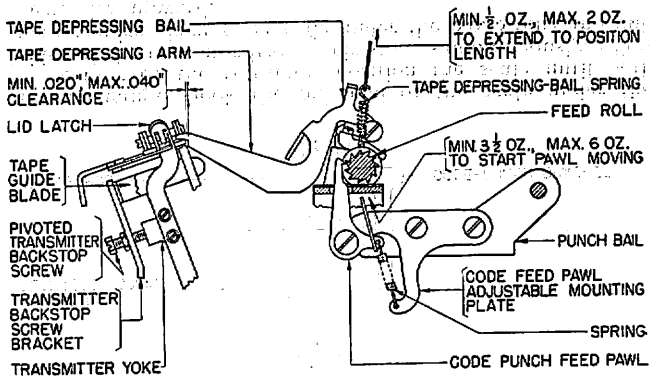

Fig. 46
**2.90 Code-Punch Feed-Pawl Spring:** It should require Min. 3-1/2 oz., Max. 6 oz. to start the pawl moving away from the feed-roll ratchet. **Fig. 46**
**2.91 Tape Depressing-Bail Spring:** It should require Min. 1/2 oz., Max. 2 oz. to extend the spring to position length with the tape depressing-bail resting against the transmitter plate. **Fig. 46**
**2.100. Tape Depressing Bail:** With the transmitter lid closed and latched, the tape depressing arm which rides on the pivoted transmitter when the transmitter is not in its left-hand (latched) position, should pass midway between the lid latch spring and the locating stud of the transmitter lid. **Fig. 46**
**2.112 Pivoted Transmitter Backstop Screw:** There should be Min. .020", Max. .040" clearance between the latch on the tape-depressing arm and the adjacent latching edge on the transmitter plate with the pivoted transmitter positioned against its backstop screw and the latch on the tape-depressing bail engaged with the transmitter. **Fig. 46**
2.113 **Tape-guide blades** should pass between the tape-out and the No. 1 and between the No. 4 and No. 5 sensing fingers without touching the sensing fingers or the underside of the transmitter frame, as the transmitter pivots from right to left. **Fig. 46**